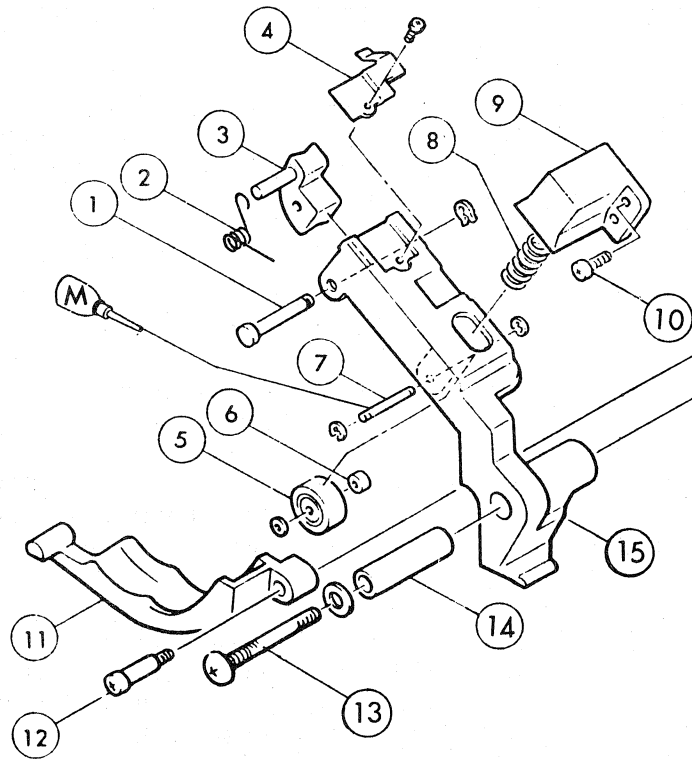

Fig. 18
III – 2 – 9 Lever Pad Roller (See Fig. 18)
1. Unscrew 1 piece of ⑩ to remove ⑨ and ⑧.
2. Unscrew 1 piece of ⑬ to remove the assy parts of ⑮.
3. Unscrew 1 piece of ⑫ to remove ⑪.
4. See Fig. 18 for further disassembly.